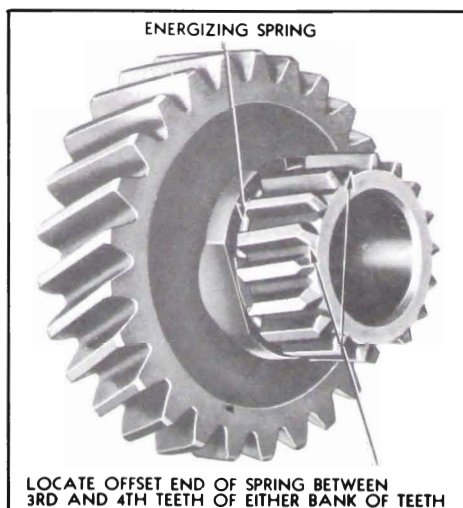

Figure 4-31—Energizing Ring Location
1. It will be noticed upon examining these springs that one of the ends is slightly offset. Each spring must be assembled in its groove in the clutch gear and second speed gear. The offset or locking end must be between the third and fourth teeth in either bank of teeth. See Figure 4-31.